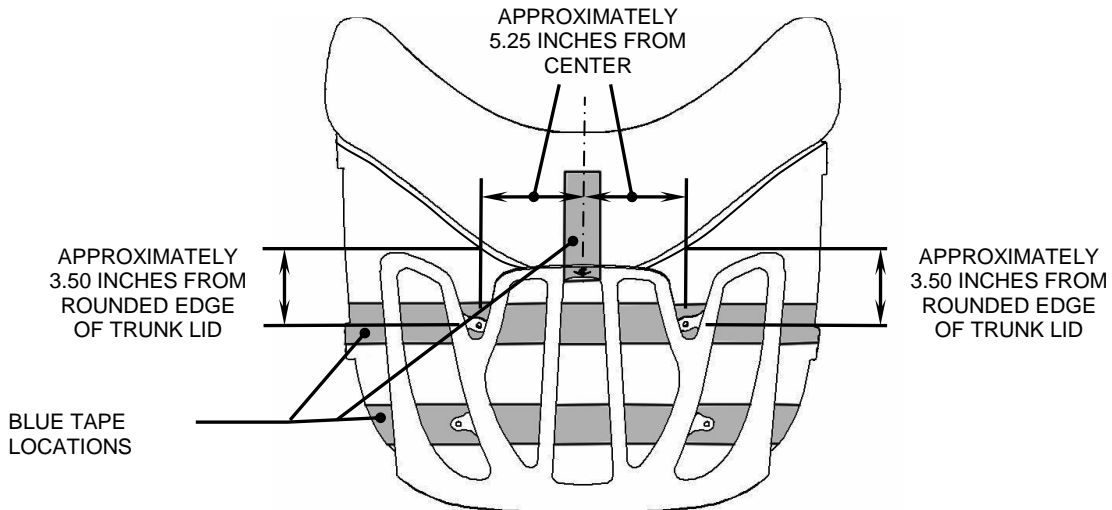

FIGURE 2
3. Place the trunk rack on the tape areas, and center the rack from side to side visually. At the front mounting tab locations, measure from the front edge of the trunk to the center of the hole in the front mounting tab locations. This measurement should be approximately 3.50 inches on both sides, see Figure 2. For reference the rack should be approximately 5.25 inches from center of the trunk to center of each front leg hole.